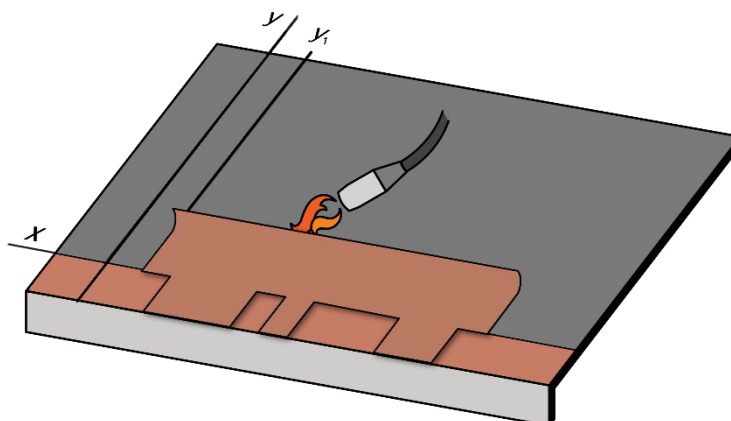

Fig. 17 - First row shingles installation by torch
- Proceed with the installation of the first row of shingles: align the lateral edge of the first shingle on the vertical z and the upper edge on the horizontal 14,5 cm from x - see Fig. 17. Fix the shingle to the membrane using the torch and lifting the top of the shingle with a tool, Fig. 17. The self-adhesive points will fix the tabs of the shingles of the first row to the shingles below, of the starting row. Move forward installing all the shingles of the first row.